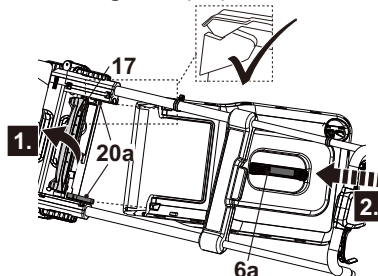

Fig. 7
4. Open the deflector guard (17) and hold it in position (Fig. 7, step 1).
5. Carry the grass catcher (6) by its carry handle (6a).
6. Align the support with the hooks (20a) and hang the grass catcher onto it (Fig. 7, step 2).
7. Carefully release the deflector guard (17) afterwards.